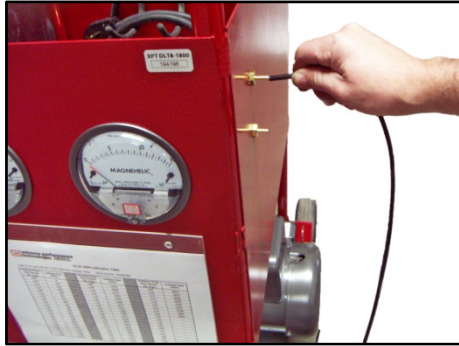

Fig. 3 - Positive Pressure Testing
3. Connect your vinyl static tubing to either the top connection for positive duct pressure testing or connect to the bottom connection for negative duct pressure testing. (*See Figures 3 & 4 examples below*):